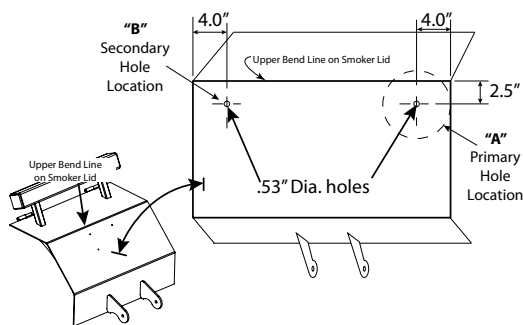

fig 1
1. Measure and mark location of hole(s) in pellet smoker lid as shown in fig 1 (NOTE: If a single thermometer is to be installed, mark hole location at "A". If two thermometers are to be installed, mark hole locations at "A" and "B".